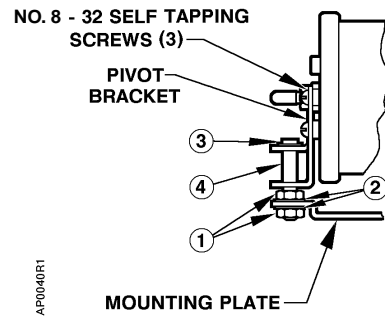

**Figure 1.**
**Table 3. No. 3 Damper Actuator with Optional Positioner Relay 147-2000 and Relay Mounting Kit 147-104. (See Figure 1)**